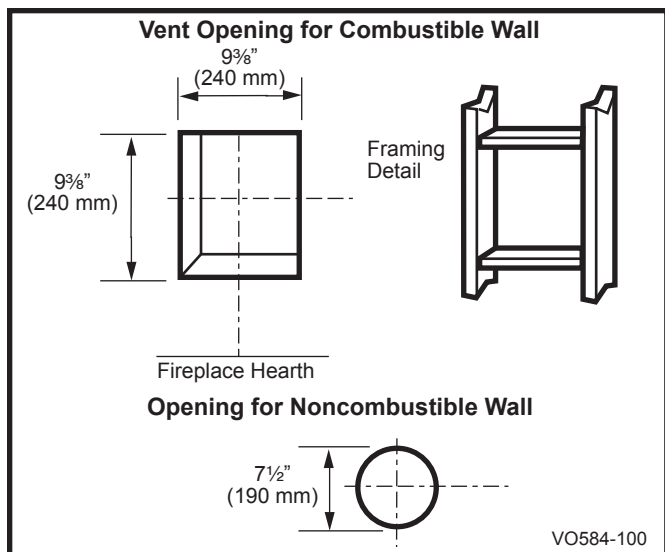

Fig. 33 Locate vent opening on wall.
Locate vent opening on the wall. It may be necessary to first position the fireplace and measure to obtain hole location. Depending on whether the wall is combustible or noncombustible, cut opening to size. (Fig. 33) (For combustible walls first frame in opening.)
Combustible Walls (Fig. 33): Cut a 9 $\frac{3}{8}$ " H x 9 $\frac{3}{8}$ " W (240 x 240 mm) hole through the exterior wall and frame.
Noncombustible Walls (Fig. 33): Hole opening must be 7.5" (190 mm) in diameter.
1. Establish vent hole through the wall. (Fig. 33)